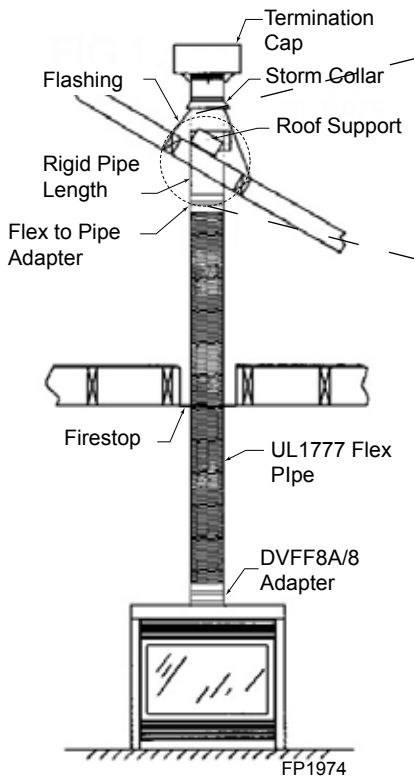

Figure 6.7 - Typical Vertical Flex Vent Installation
- Install firestop spacers, Figure 6.7, when penetrating ceiling, attic spaces, or walls.
- Use only listed and approved terminations and accessories, installed per the installation instructions and Figure 6.7.